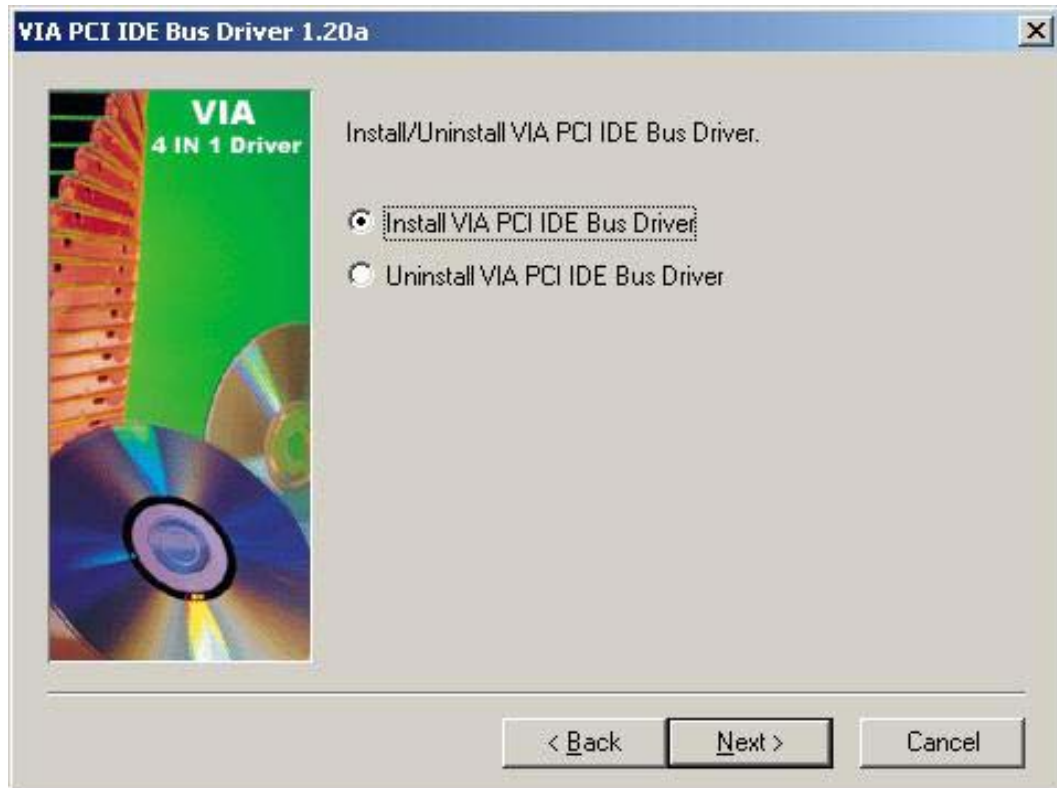

Figure 6-7: VIA PCI IDE Bus Driver Selection
Step 8: The setup then prompts the user (see **Figure 6-7**) if the VIA PCI IDE Bus Driver must be installed on the system. Select install or uninstall. Click “**NEXT**” to continue.